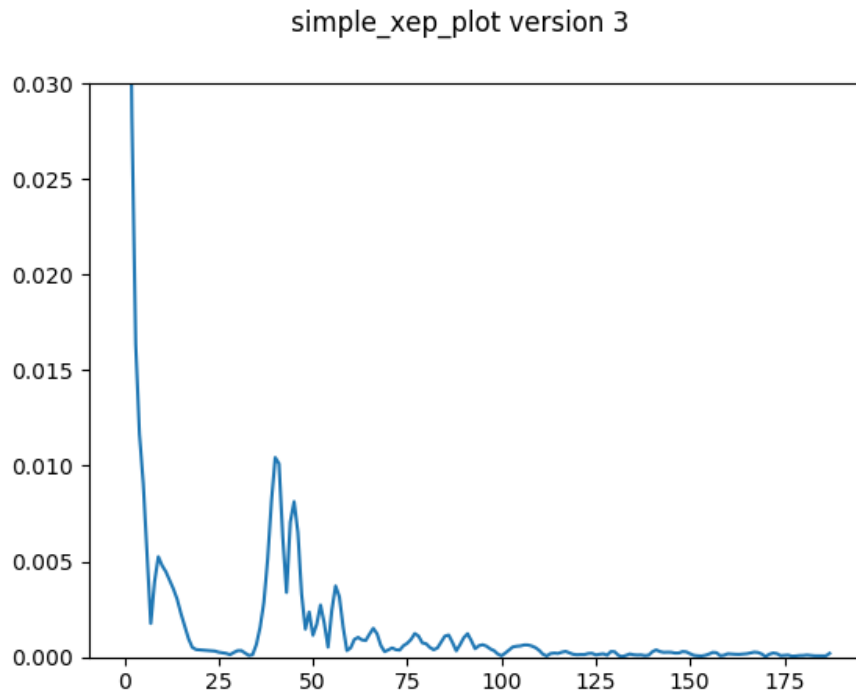

Fig. 5. "XEP_plot_record_playback.py" output. Lower image with baseband enabled.
- Try adding -b to change the radar data output from rf to baseband data as shown in Fig. 5